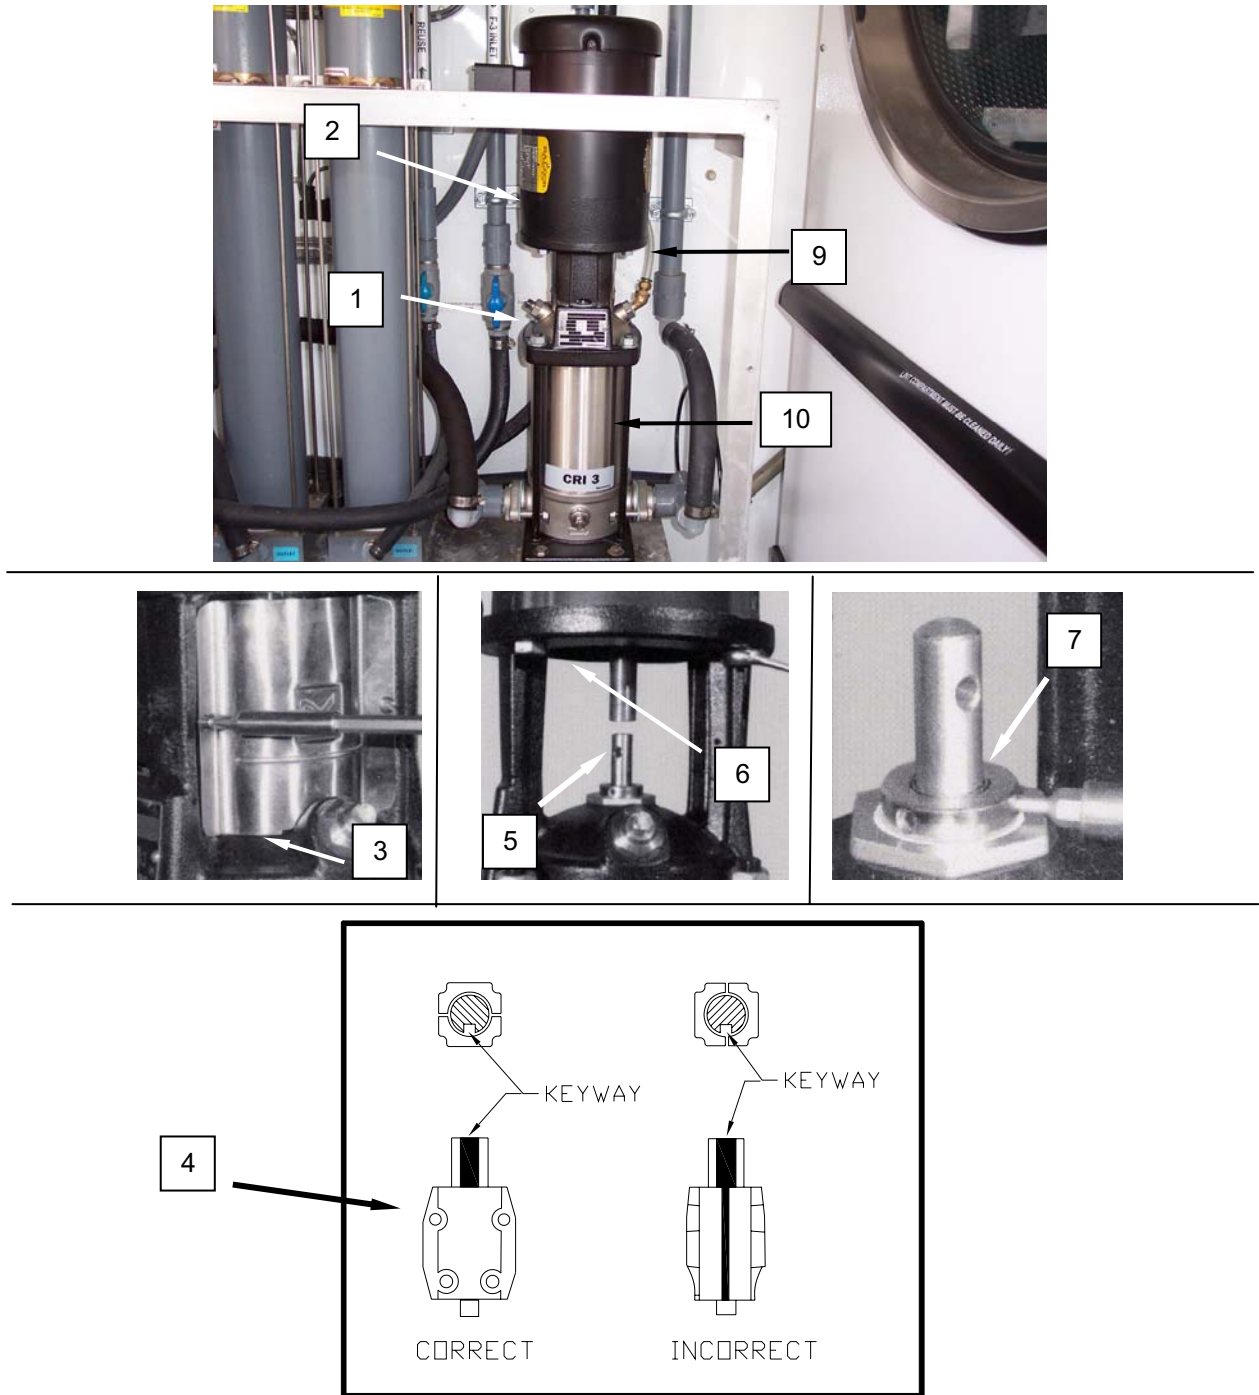

Figure 4. Replace the Pump Impellor.
3. Remove the screws retaining the coupling guard (**Figure 4, Item 3**), and remove the coupling guard.
4. Remove the bolts securing the coupling halves and remove the coupling (**Figure 4, Item 4**).
5. Remove the coupling pin from the pump shaft (**Figure 4, Item 5**).
8. Remove the bolts retaining the motor (**Figure 4, Item 2**) to the motor stool (**Figure 4, Item 6**) and remove the motor.
9. Loosen the three screws securing the cartridge seal (**Figure 4, Item 7**) and unscrew the cartridge seal from the motor stool (**Figure 4, Item 6**).
10. Disconnect the vent hose (**Figure 4, Item 9**) from the pump head.
11. Remove the nuts retaining the motor stool and pump head (**Figure 4, Item 6**) to the pump outer sleeve (**Figure 4, Item 10**), and remove the motor stool.